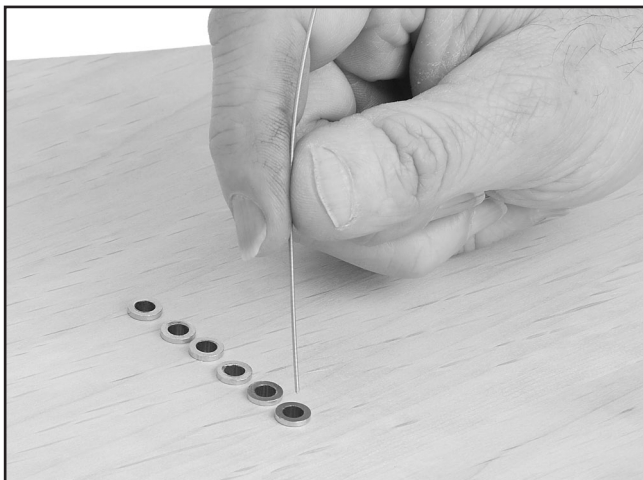

Figure 30. Example of threading string through ferrule.
1. If you installed ferrules, thread the 1st string through the ferrule as shown in **Figure 30**.